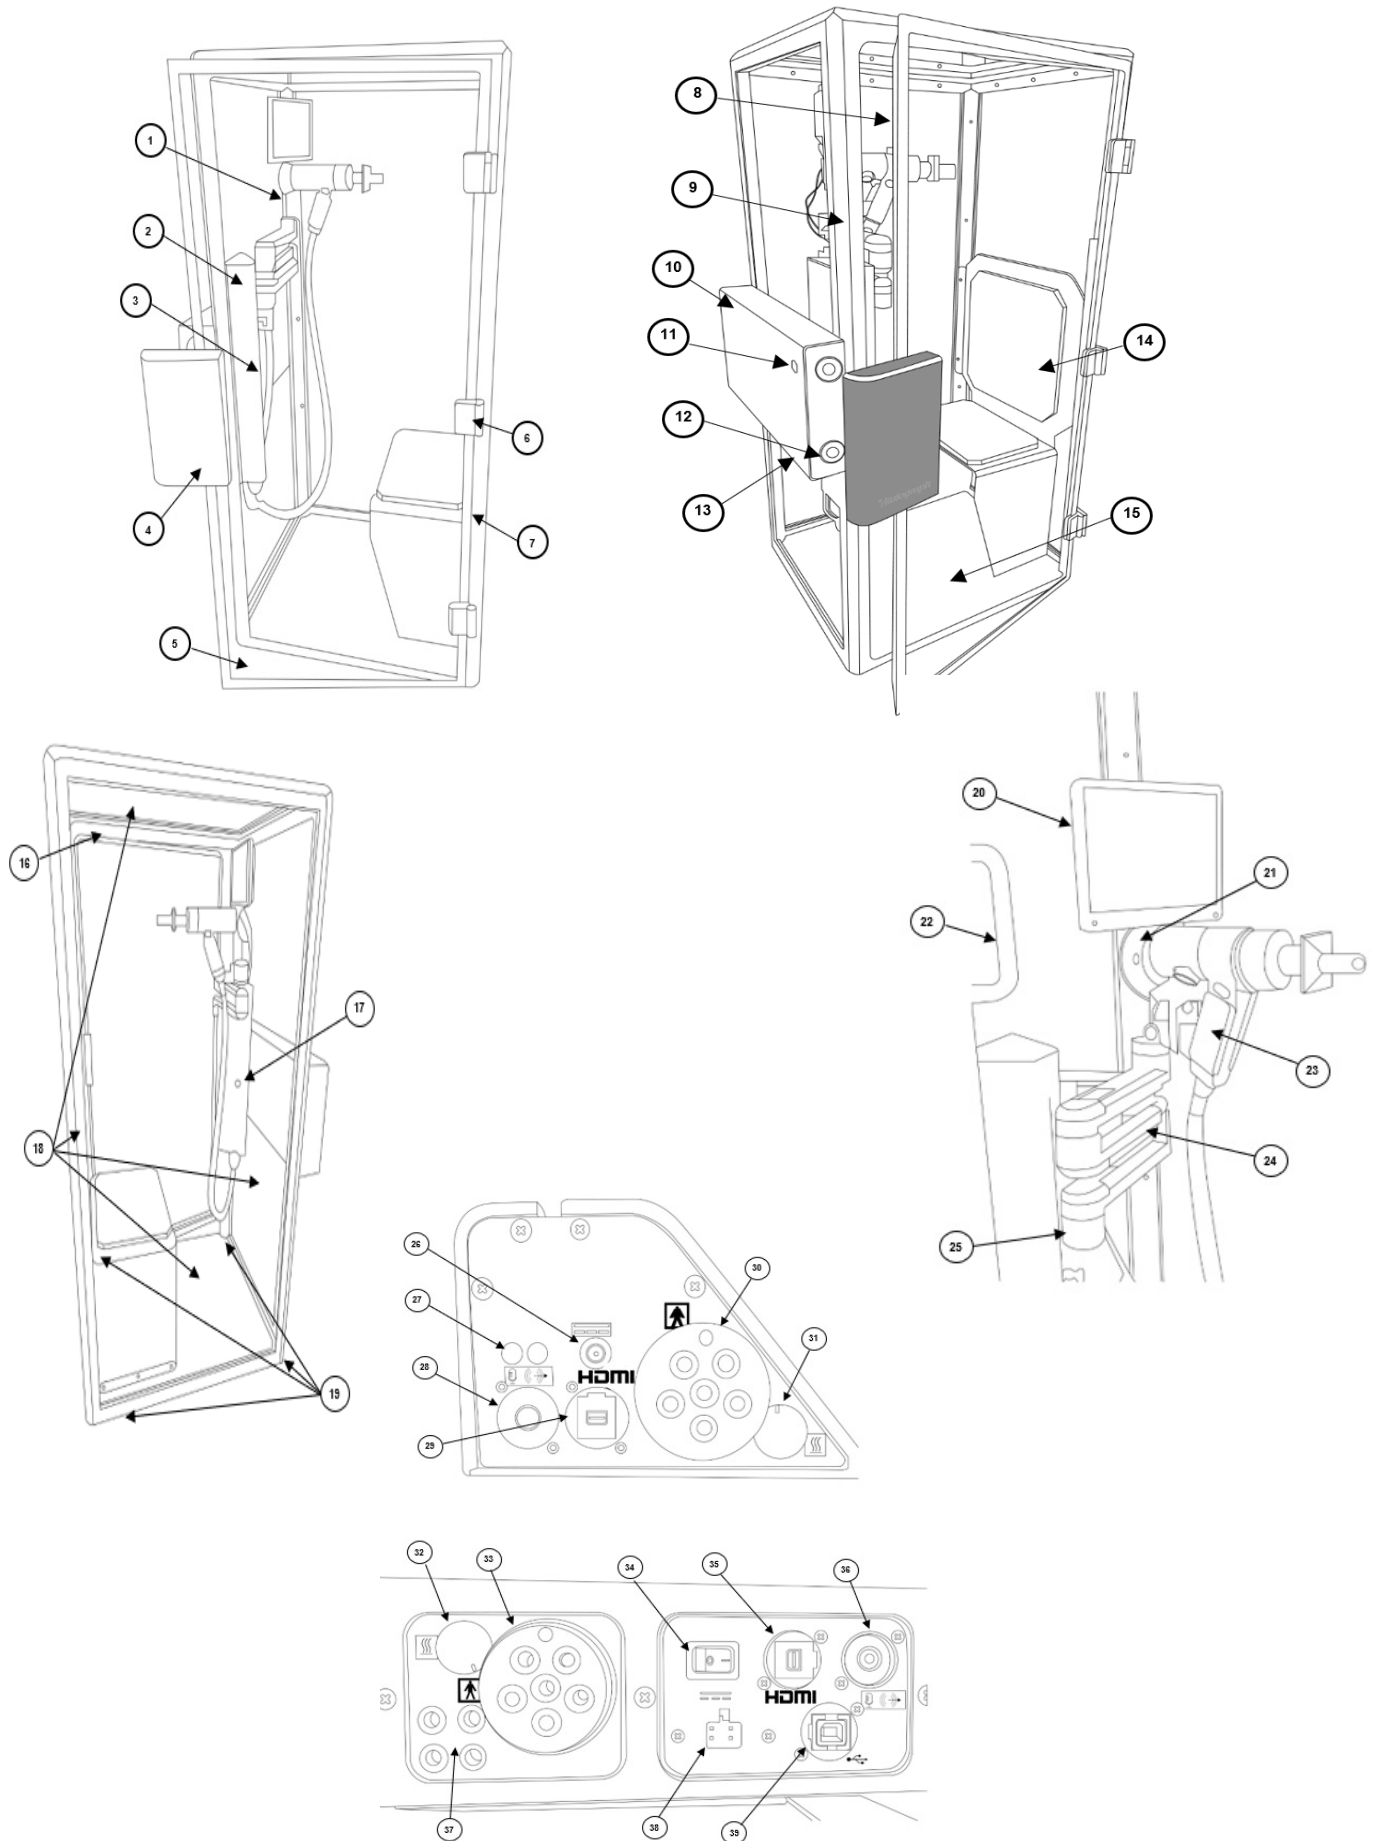
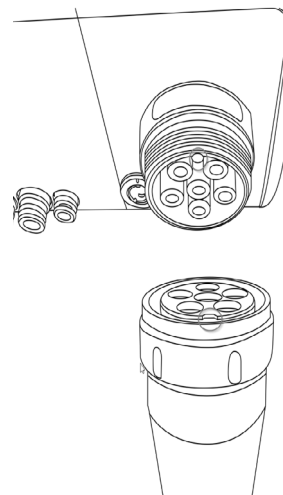
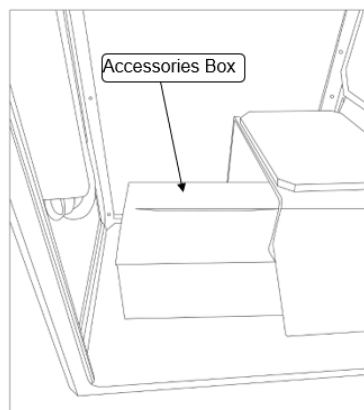

Figure 1- Main Components of the VitaloQUB
Figure 8: Alignment key shown on Bulkhead Connector
Figure 10: Accessories Box
5. Fit the supplied height adjustable feet x4 (19) to the underside of the device.
9. Remove Patient Valve Control Arm from the Accessories Box (Figure 10) which is located under the seat inside the unit and attach the Patient Valve Control Arm (24) to the Patient Valve Control Arm Holder (25) using the supplied
12. Connect the DC Power Cable to the back of the Monitor (20) and then connect the other end to item 26 (figure 1) on the underside of the Internal Enclosure (2). This cable is pre-assembled to the Patient Valve Control Arm (24).
13. Connect the HDMI Cable to the back of the Monitor (20) and then connect the other end to item 29 (figure 1) on the underside of the Internal Enclosure (2). This cable is pre-assembled to the Patient Valve Control Arm (24).
14. Connect the cable of the Speaker/Mic from the Intercom System (21) to the sound jack port to item 28 (figure 1) on the underside of the Internal Enclosure (2).
15. Connect the Patient Valve to the underside of the Internal Enclosure (2) by attaching the Bulkhead Connector to item 30 (figure 1) and place the handheld part of the Patient Valve in the Patient Valve holder (23). As in Figure 8, ensure that Bulkhead Connector alignment key is aligned correctly to the connector on the underside of the Internal Enclosure (2). The Bulkhead Connector must be screwed on fully to ensure a leak-tight fit.
16. Plug in the Heater Connector cable beside the Bulkhead Connector to item 31 (figure 1), aligning the white line on the connector with corresponding white line on connector on the underside of the Internal Enclosure as in Figure 9.
18. Connect one end of the Tubing Umbilical and the Heater Plug which is supplied in the Accessories box (figure 10) in the VitaloQUB to the underside of the External Control Module (10) to items 32 and 33 (figure 1) and connect the other end of the Tubing umbilical and Heater Plug to the back of the paired device taking note of the instructions in figure 8 and figure 9.
19. Connect the USB Cable (supplied in Accessories Box) to item 31 (figure 1) on the underside of the External Control Module (10) and connect the other end to the back of the paired device.
20. Connect the Audio Cable (supplied in Accessories Box) to item 36 (figure 1) on the underside of the External Control Module (10) and connect the other end to the back of the main Intercom/Speaker System module (also supplied in the Accessories Box). This main Intercom/Speaker Control module must be connected to a mains power outlet using the provided power supply.